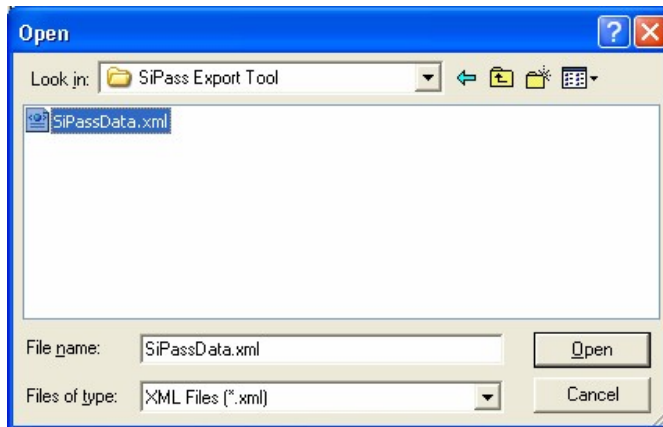

Fig 10 Selecting the SiPass XML file
- Select it and click 'Open' (Fig 10)